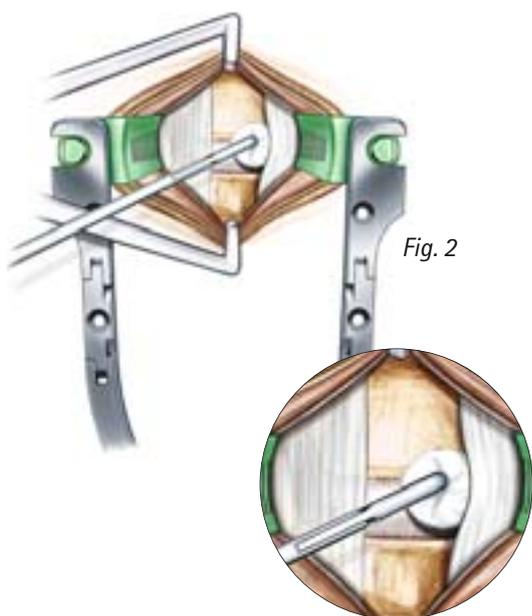

Fig. 2
- ✦ After the skin incision and preparation, the CCR retractor is applied. The blades are available in PEEK and Titanium. A counter retractor can be used (Fig. 2). The subcutaneous tissue is separated from the platysma cranially, caudally and medially, and the platysma is also separated following the direction of its fibres. The margins of the platysma can be held apart with the retractor or with two surgical forceps.